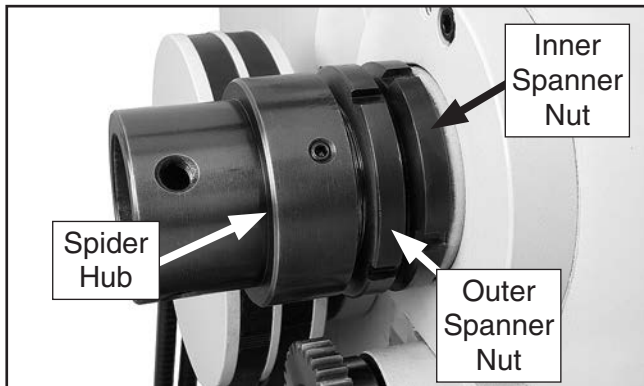

Figure 100. Spindle spanner nuts.
4. Place the chuck wrench in the cam-lock socket to keep the spindle from rotating, and loosen the outer spanner nut (see **Figure 100**) two turns. Removing the spider hub is not necessary.